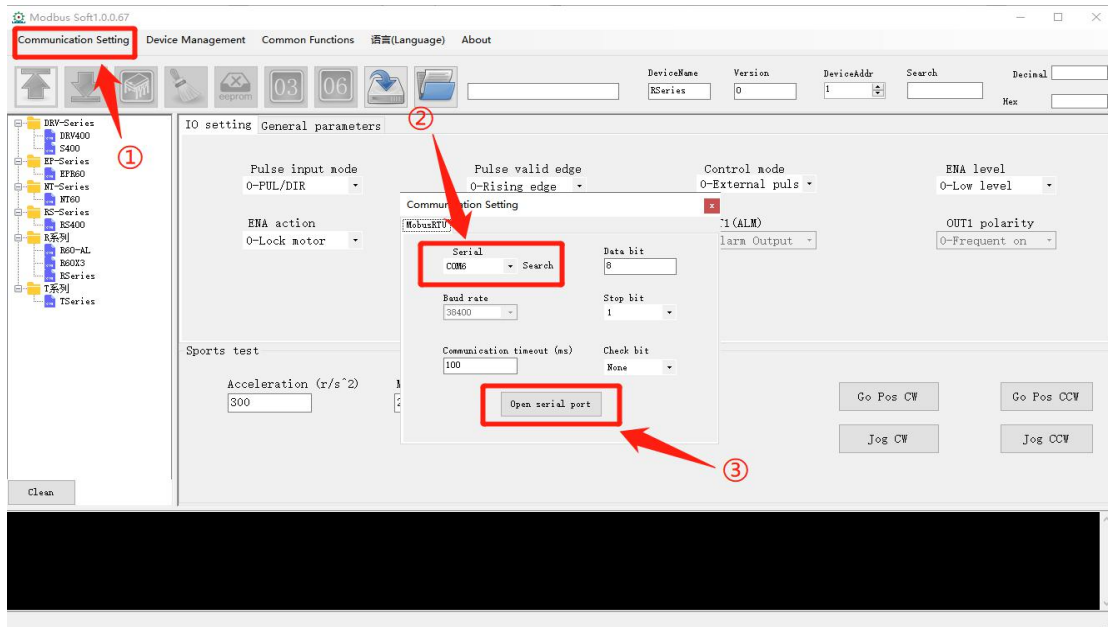

Figure 4
(3) Communication Settings
As shown in Figure 4, step ①: Click "Communication Settings"; step ②: select "serial port", This serial port is consistent with the port; Step ③: Click "Open Serial Port".